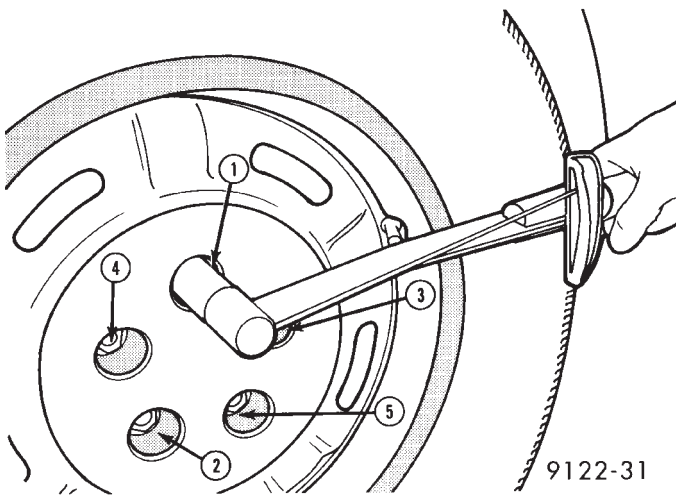

Fig. 8 Tightening Wheel Nuts
(9) Install the caliper guide pin bolts and tighten to 34 to 37 N•m (25 to 35 ft. lbs.). **Extreme caution should be taken not to cross the threads of the caliper guide pin bolts.**
(10) Install the wheel and tire assembly. Tighten the wheel mounting stud nuts in proper sequence (Fig. 8) until all nuts are torqued to half specification. This is important. Then repeat the tightening sequence to the full specified torque of 129 N•m (95 ft. lbs.).